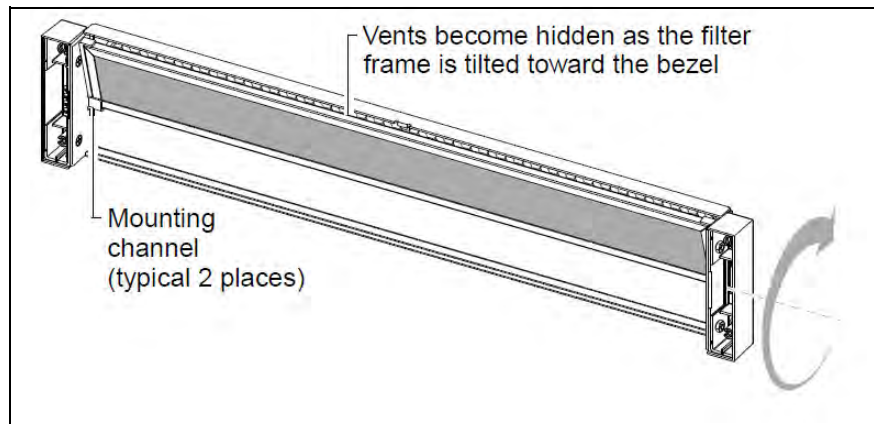

Figure C.44 - Air Filter Replacement
5. Revolve the air filter gently into its vertical position, while taking care to ensure that the filter frame's exterior foam pads seat snugly against the bezel's interior walls (**Figure C.44**).